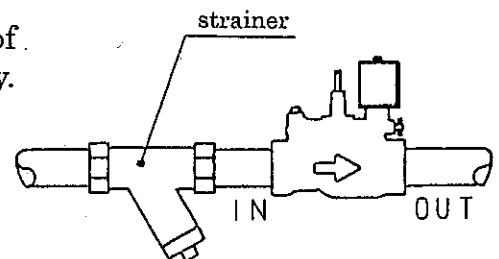

Fig. 7.
- (9) Dirt or foreign matter in the water will interfere with the normal operation of the solenoid valve. Install a 40 to 80 mesh strainer on the IN side of the solenoid valve according to the water quality. (Fig. 7.)